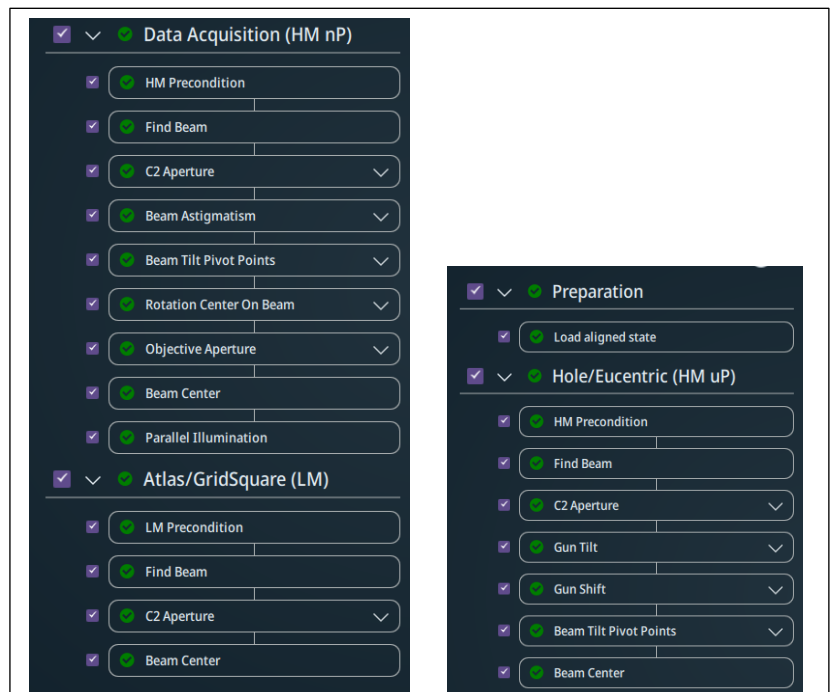

Figure 4: The steps that form the User Alignments
- 4.2.4.1. Initial fill should be performed from the LN2 cylinder’s blue valve (Figure 4), looking through the opening in the window lid for a visual.
- 4.4.7. In MiCo, select *Alignments* tab, go to the “User Alignments” tab, select all 3 main alignments “High Magnification uP”, “Data Acquisition (HM nP)”, “Atlas (LM uP)” and press the play button (Figure 4).